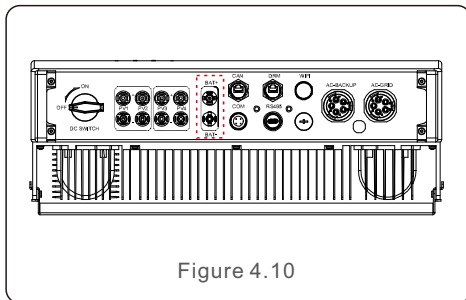

Figure 4.10
- Step 5. Fit the connectors to the battery ports at the bottom of the inverter with correct polarity and a "click" sound. (see figure 4.10)